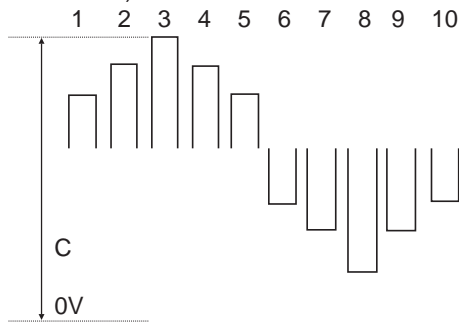

Fig. 1
- 2.1. Adjust [C] for $5.0 \pm 0.2V$ through the BRIGHT control variation according to fig. 1.
- 2.2. Adjust the NTSC SUB-TINT level according to fig. 1 positions 2, 3 and 4.